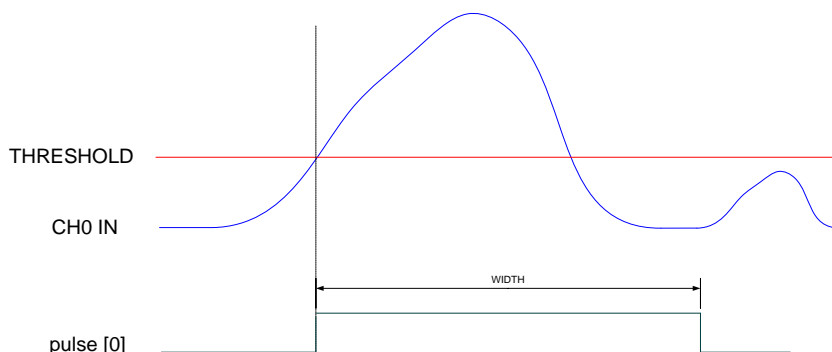

Fig. 10.14: Channel pulse signal
- a pulse of configurable width (see Fig. 10.14); the width parameter can be set at register address 0x1n70.